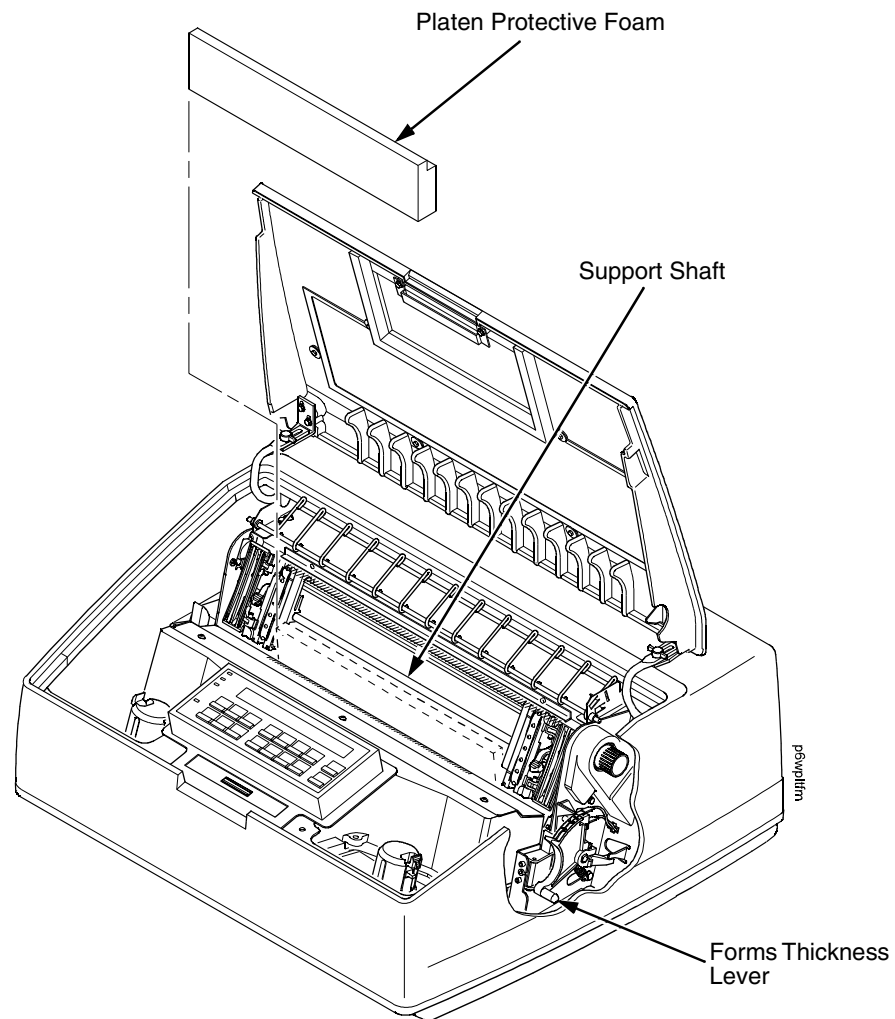

Figure 16. Removing the Platen Protective Foam
1. Rotate the forms thickness lever downward (to position "A"). See Figure 16.